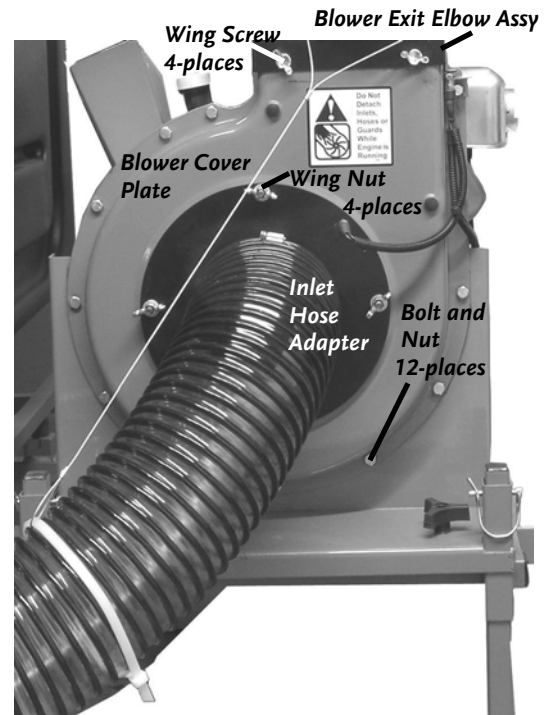

Figure 46
2. Remove the Wing Nuts and Wing Screws to disconnect the Inlet Hose Adapter and Blower Exit Elbow Assembly from the Chipper/Blower unit (**Figure 46**).
3. Using two (2) 1/2" wrenches or sockets, remove the 12 Bolts and Nuts (**Figure 46**) retaining the Blower Cover Plate and remove the plate from the blower housing. The Chipper Impeller is now exposed.